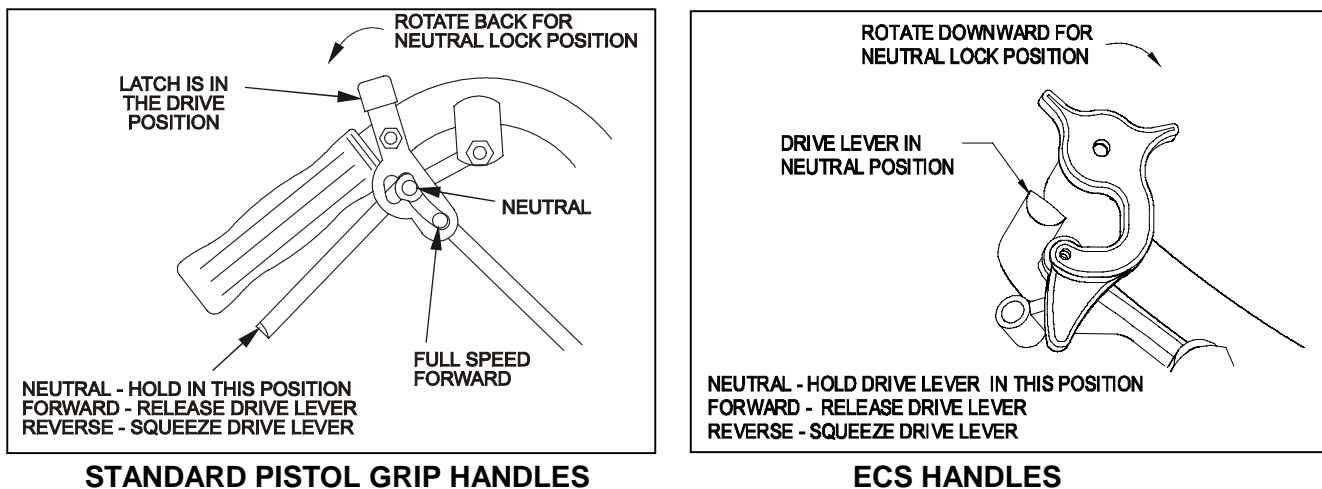

FIGURE 7
- 4.1.3 Drive Levers: Located on each side of the upper handle assembly directly below the handle grips (See Figure 7). These levers individually control the speed and direction of each drive wheel. When the speed control lever is moved out of the neutral position and the neutral lock latches are moved into the drive position, as shown in Figure 7, and the drive levers are released, the drive wheels are engaged in the forward direction.
- 4.1.4 Neutral Lock Latch: Located directly above the drive levers. These latches allow the operator to lock the drive levers in a "neutral" position where neither of the drive wheels are engaged in either a forward or reverse direction (See Figure 7).
For Standard Pistol Grip Handles: To lock the drive levers in neutral, squeeze the drive levers back to the neutral position (**Do Not** squeeze the drive levers all the way back as this will cause the drive wheels to go into full reverse direction). Place thumbs on the upper portion of the neutral lock latches and move them to the rear. Release drive levers (See Figure 7).
For ECS Handles: To lock the drive levers in neutral, squeeze the drive levers back to the neutral position (**Do Not** squeeze the drive levers all the way back as this will cause the drive wheels to go into full reverse direction). Place thumbs on the inner thumb lobe of the neutral lock latches and push downward, moving them under the drive levers. Release drive levers (See Figure 7).